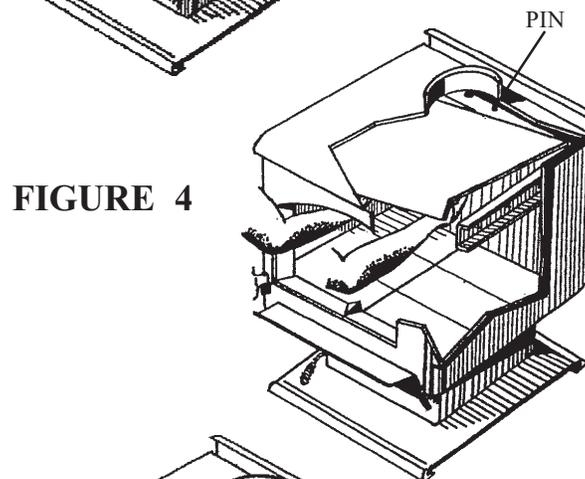

FIGURE 4
6. To remove the baffle plate, use both hands to lift it off of the alignment pin at the center rear. One edge of the bent baffle front will have a diagonal cut. Tilt this side up as you slide the baffle towards that side until the other side clears its shelf and the baffle can be lowered. See **Figure 4**.